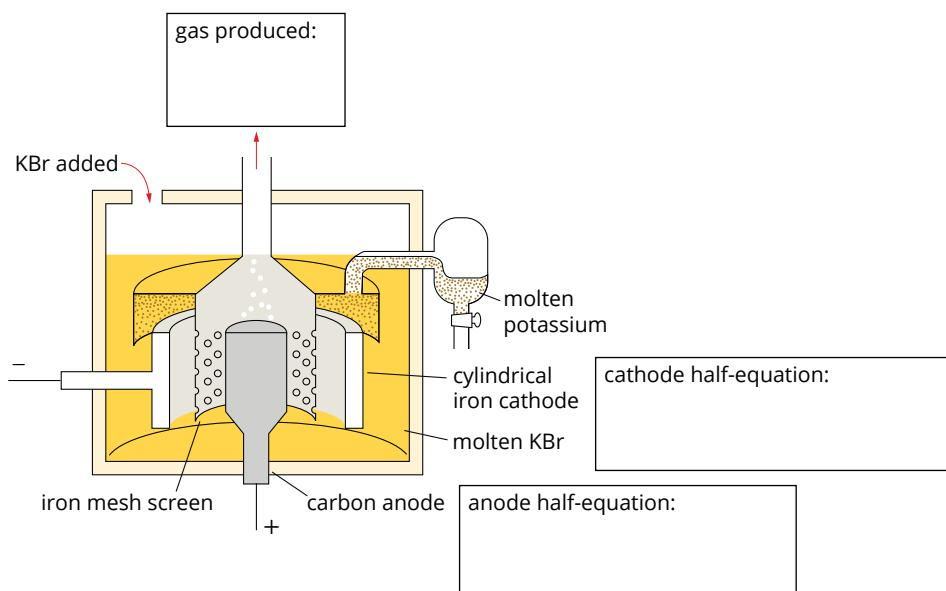

FIGURE 9.2.7 Electrolysis of molten potassium bromide.
- 2** Potassium can be produced in the cell represented in Figure 9.2.7 by using molten potassium bromide as the electrolyte. Complete the missing labels for this cell.